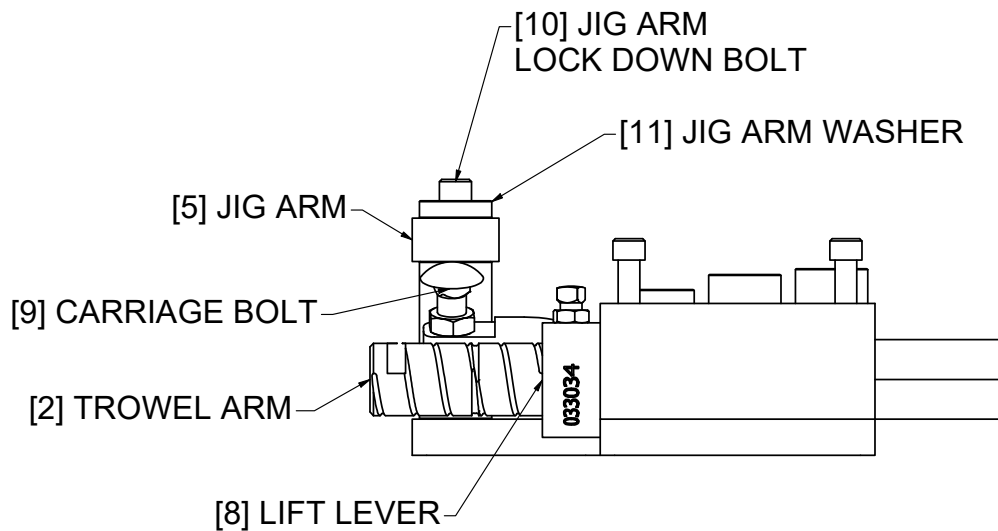

Figure 1.3-2
Step 3: After selecting correct spacer, insert trowel arm [2] into jig block clamp [6] as shown in Figure 1.3-2.
Step 5: Move jig arm [5] over carriage bolt [9] on trowel arm as shown in Figure 1.3-2 and secure in place by tighten jig arm lock down bolt [10] on top of washer [11] on jig arm.